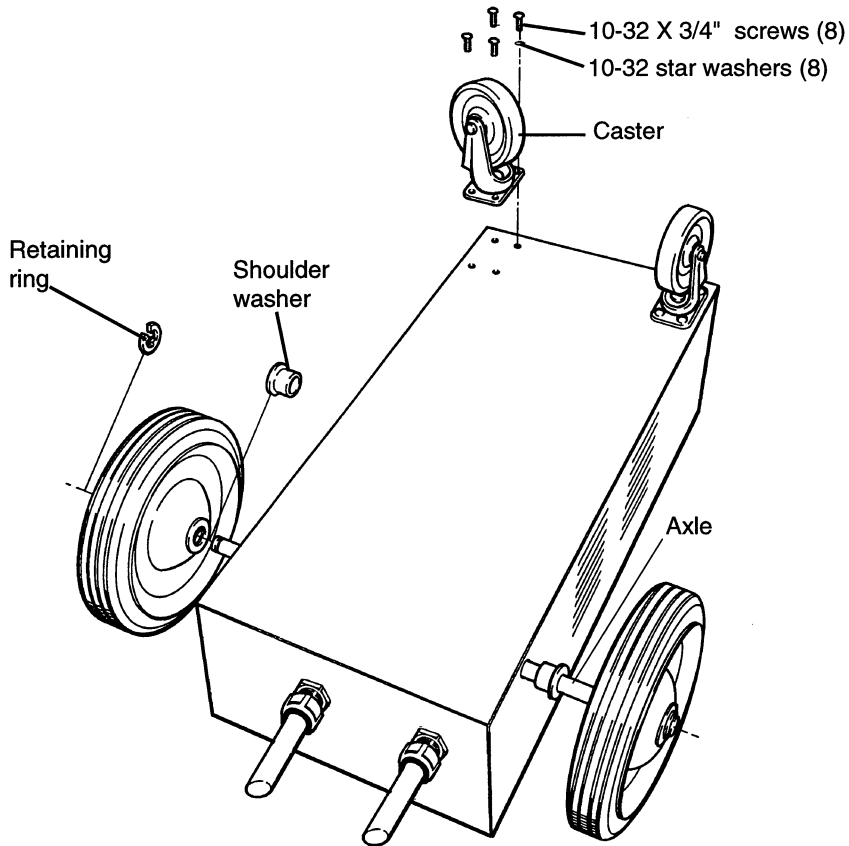

Figure 2-1 Wheel and Caster Installation
1. Attach a caster to the case with 10-32 X 3/4" screws and star washers as shown in Figure 2-1.